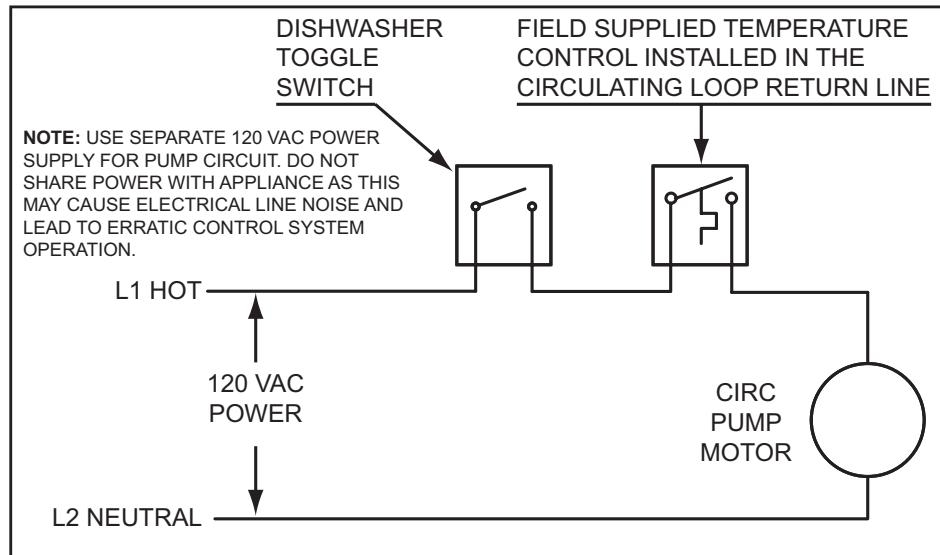

Figure 67. Recirculating Loop with Dish Washer and Toggle Switch
7. If a pump is being installed in a recirculation loop between the water heater and a commercial dishwasher wire according to *Figure 67* (page 77).